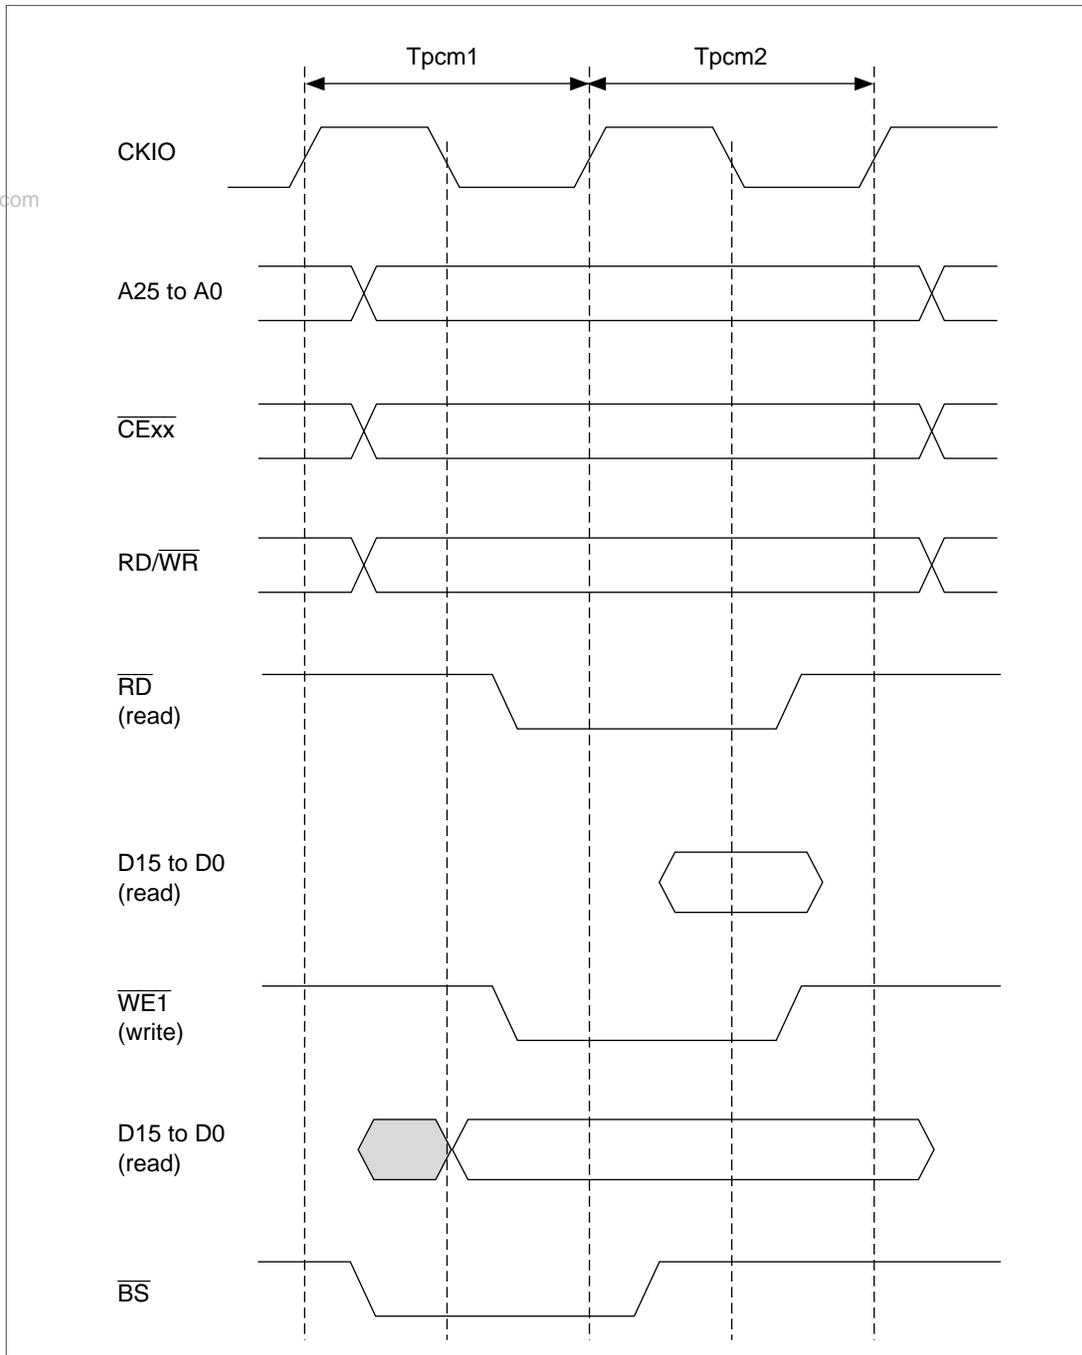

Figure 10.41 Basic Timing for PCMCIA Memory Card Interface
**Memory Card Interface Basic Timing:** Figure 10.41 shows the basic timing for the PCMCIA IC memory card interface. When physical space areas 5 and 6 are designated as PCMCIA interface areas, bus accesses are automatically performed as IC memory card interface accesses when the lower address 32 Mbyte space of each area is accessed.